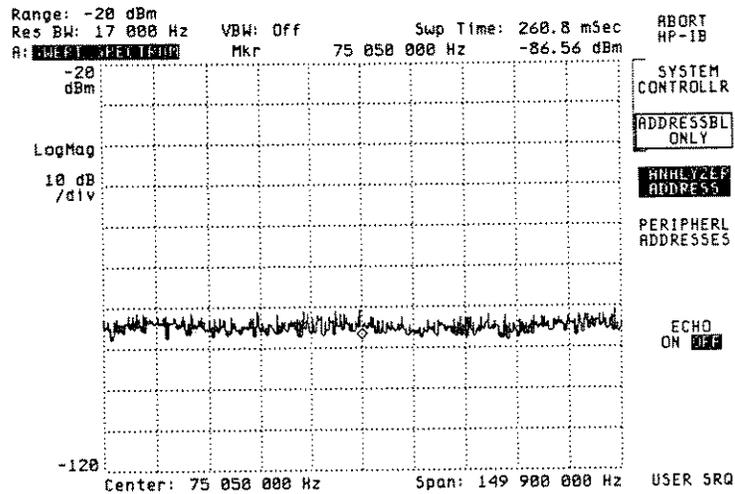

Figure 1-4. HP 3588A Screen After Pressing Local/HP-IB
4. Verify that the analyzer's address is set to 19. The current address setting is displayed when you press the [ANALYZER ADDRESS] softkey (see figure 1-4). You can change the address by pressing [ANALYZER ADDRESS], then using the numeric keypad and the [ENTER] softkey to enter a new value. However, the instructions in the verification procedure assume that the analyzer address is set to 19.